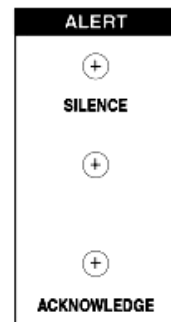

Figure 3-3
- **RF Interference:** Red Led - Indicates that an RF interference condition exists and that signals may be hindered. RF interference is a condition where the Carrier Detect (CD) in the transceiver is active for more than 20 seconds. This LED will turn off if CD turns off for 100 milliseconds.
3.1.3 Alert Panel: This section of the front panel contains an LED and two Push Button Switches. The LED illuminates to indicate the existence of unacknowledged message(s). The switches allow for Silencing and Acknowledgment as described below: See Figure 3-3. There is also an audio device associated with these functions, which is located behind the small hole to the right of the Alert Panel.